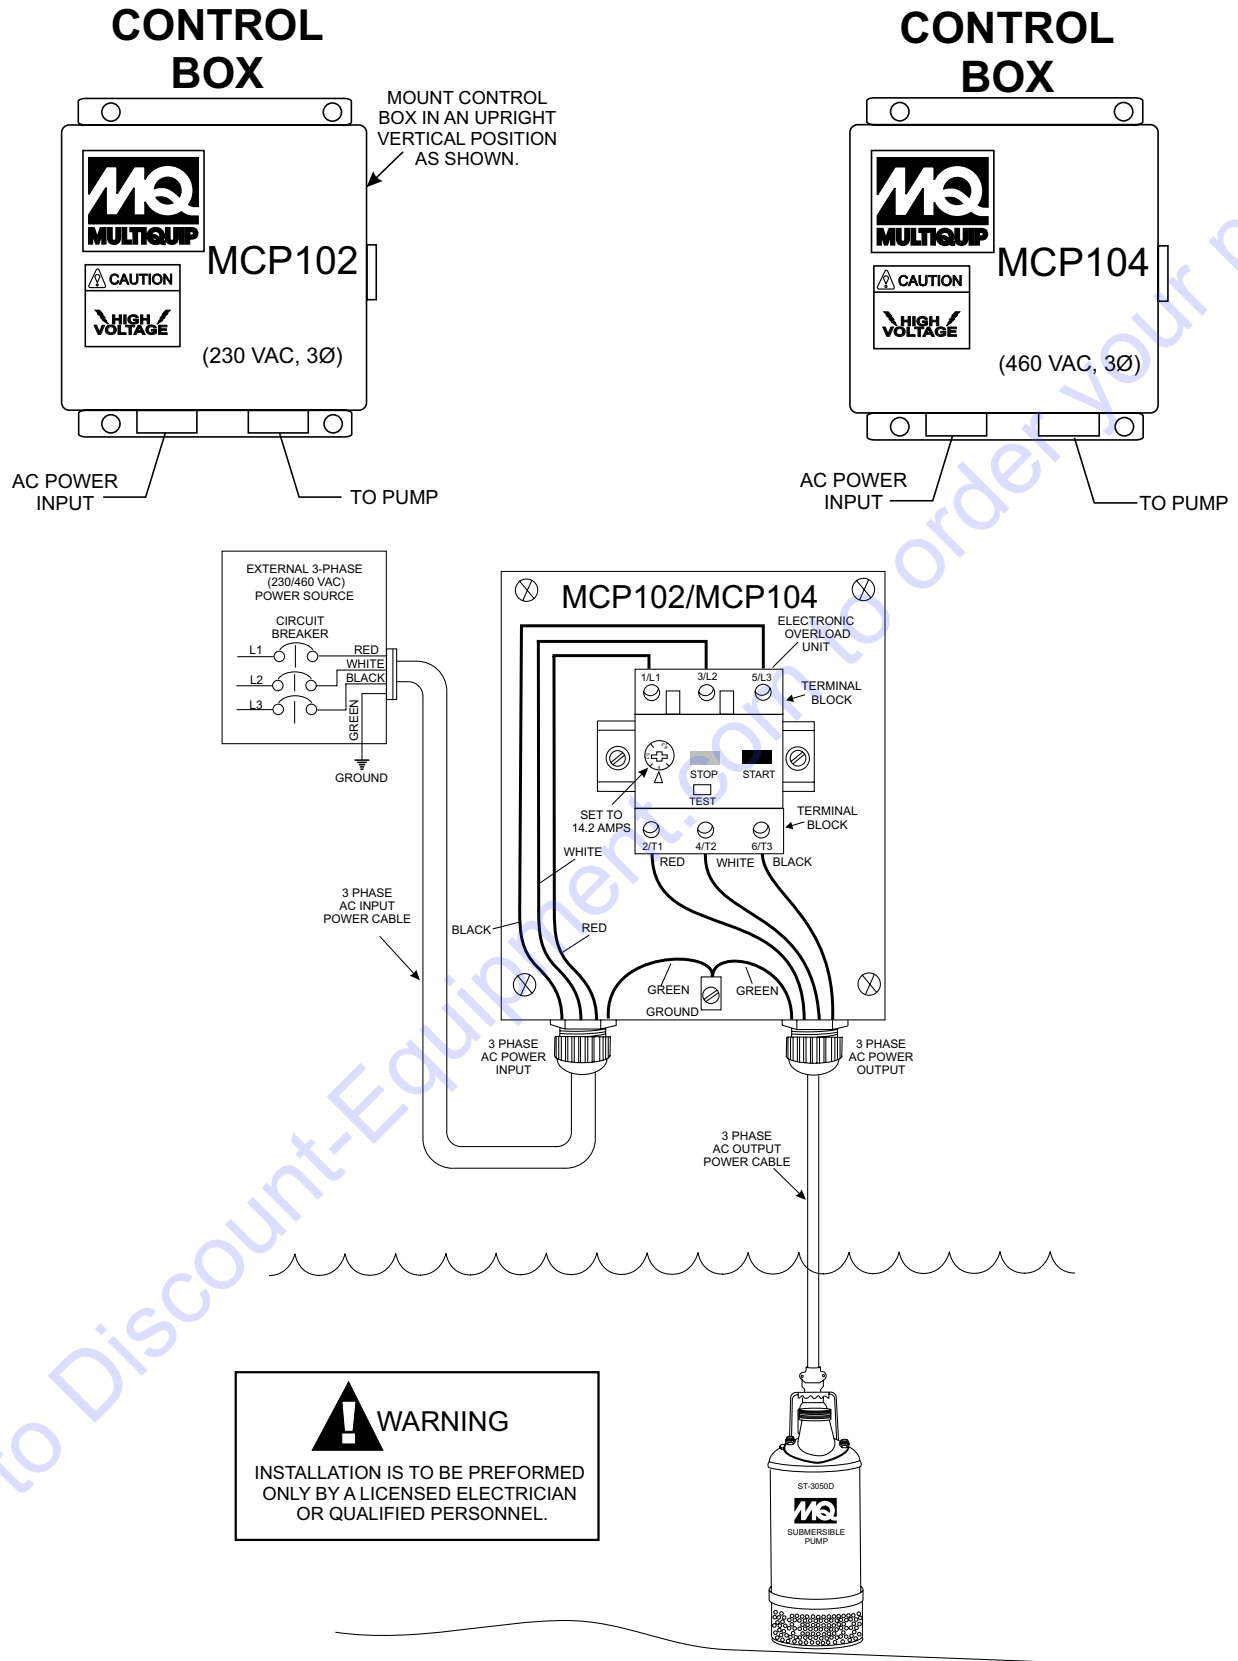

Figure 17. MCP102/104 Control Box Configurations
2. Remove the 3-phase AC input connector housing from the control box, then route the three phase input power cable through the cable gland on the control box. Attach the wires to the terminal block on the electronic overload unit inside the control box as indicated by Table 5 and Figure 17.
2. Remove the 3-phase AC output power connector housing on the control box, then route the three phase output power cable through the cable gland on the control box. Attach the wires to the AC terminal blocks on the electronic overload unit as indicated by Table 6 and Figure 17.